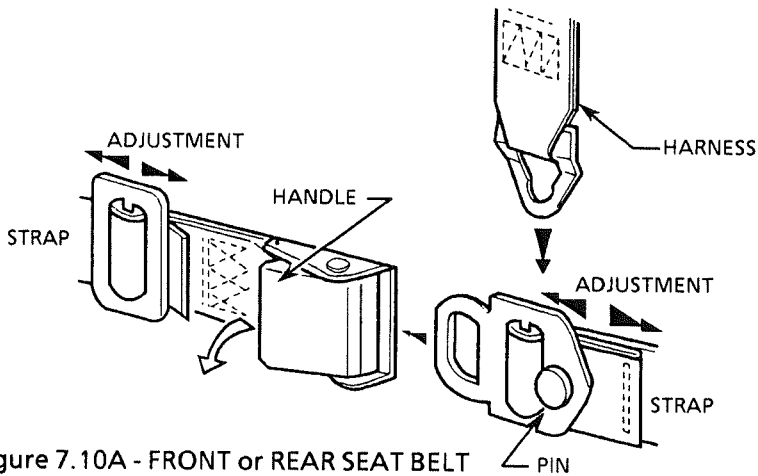

Figure 7.10A - FRONT or REAR SEAT BELT
**Front and rear seat belts** (with movable straps) (see Figure 7.10A)